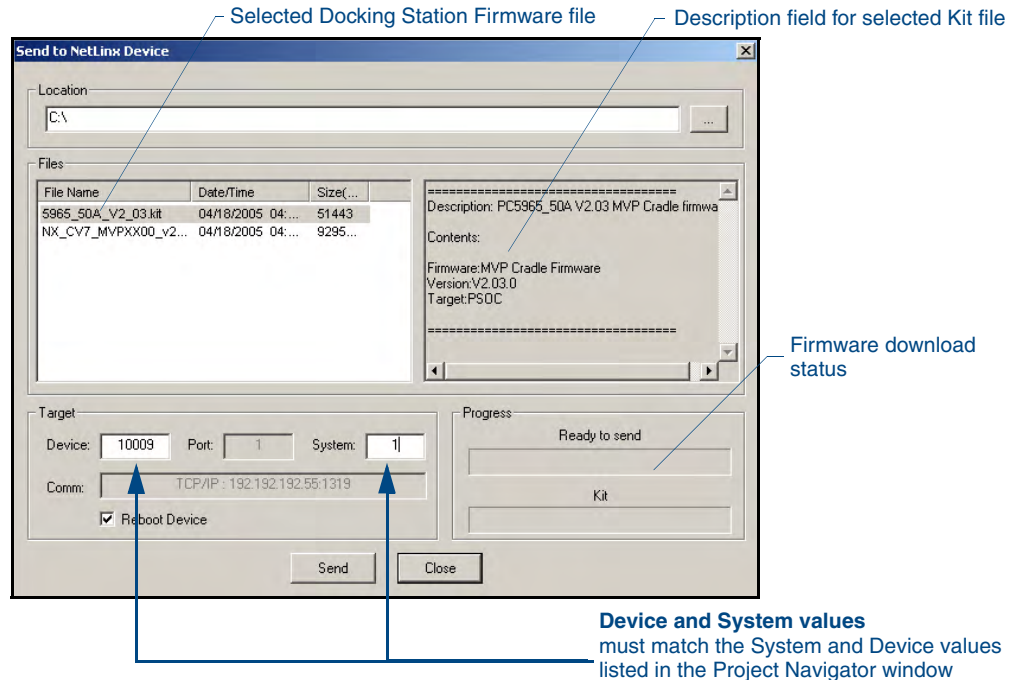

FIG. 3 Send to NetLink Device dialog (showing docking station firmware update via USB)
7. Select **Tools** > **Firmware Transfers** > **Send to NetLinX Device** from the Main menu to open the Send to NetLinX Device dialog (FIG. 3). Verify the panel's System and Device number values match those values listed within the System folder in the **OnLine Tree** tab of the Workspace window.
8. Select the docking station's Kit file (ending in *VXX.kit*) from the **Files** section (FIG. 3).